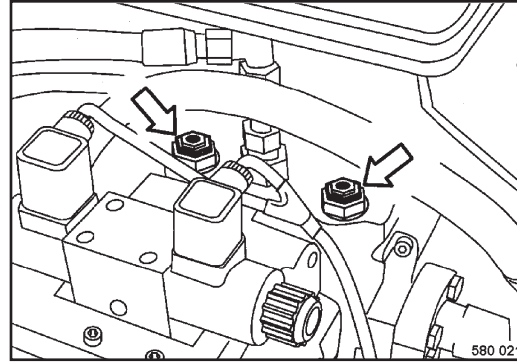

Fig. 70
- Slacken the counter nuts on the spindles of both high pressure relief valves (Fig. 70) to create a by-pass around the travel pump.